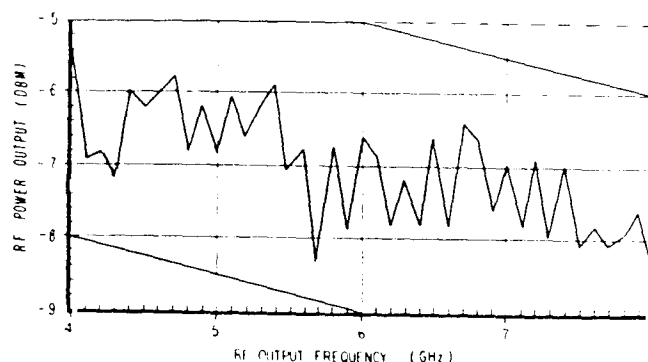

Figure 5-18. Typical Response Curve (618C)
g. Plot a dBm-frequency curve from readings obtained in step f (see Figure 5-18). Resulting response curve will consist of a series of peaks and troughs having an amplitude of  $\pm 2.0$  dB or less. Draw a straight line (parallel to frequency axis) through response curve in such a way that variations are averaged about the line.